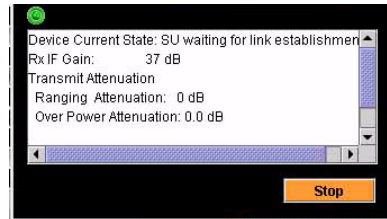

Figure 5-13 *Device State Window*
- b. When the PacketWave 200 has reset, the window shown in *Figure 5-13* is displayed. This window shows the current state of the unit, the radio gain, and transmit attenuation, and is refreshed periodically.